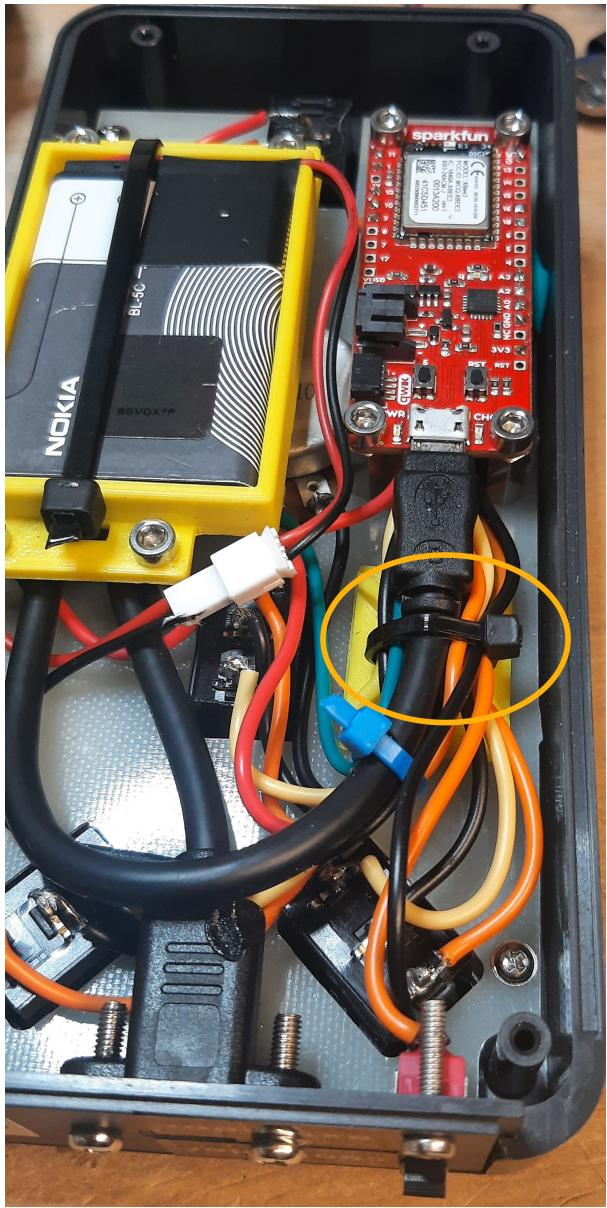

Figure 8. Slide switch wire securing.
9. Secure the slide switch wires using the supplied cable tie (best to remove the existing cable tie and add the new wires to the bundle of other wires) (Figure 8)